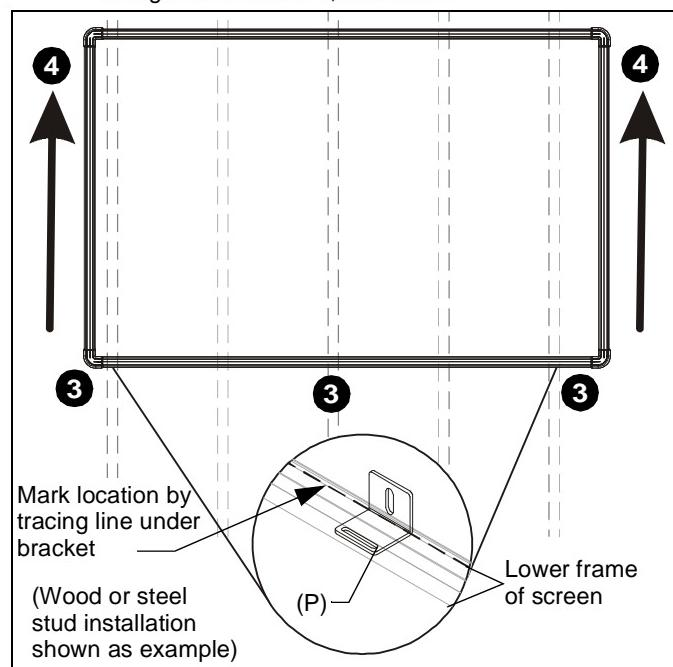

Figure 6
3. Using screen brackets (P) as a template, locate studs, slide bracket up under screen, and trace line under brackets at locations on studs or on concrete wall. (See Figure 6)
5. Install screen brackets (P) using:
- **Wood/steel studs:** one #8-9 x 1-1/2" wood screw (L) into **top** of each bracket slot and **slightly lower** than marked location. (See Figure 6)
- **Concrete wall:** one #8-9 x 1-1/2" wood screw (L) into **top** of each bracket slot and **slightly lower** than marked location, and into installed AF6 toggler. (See Figure 6)